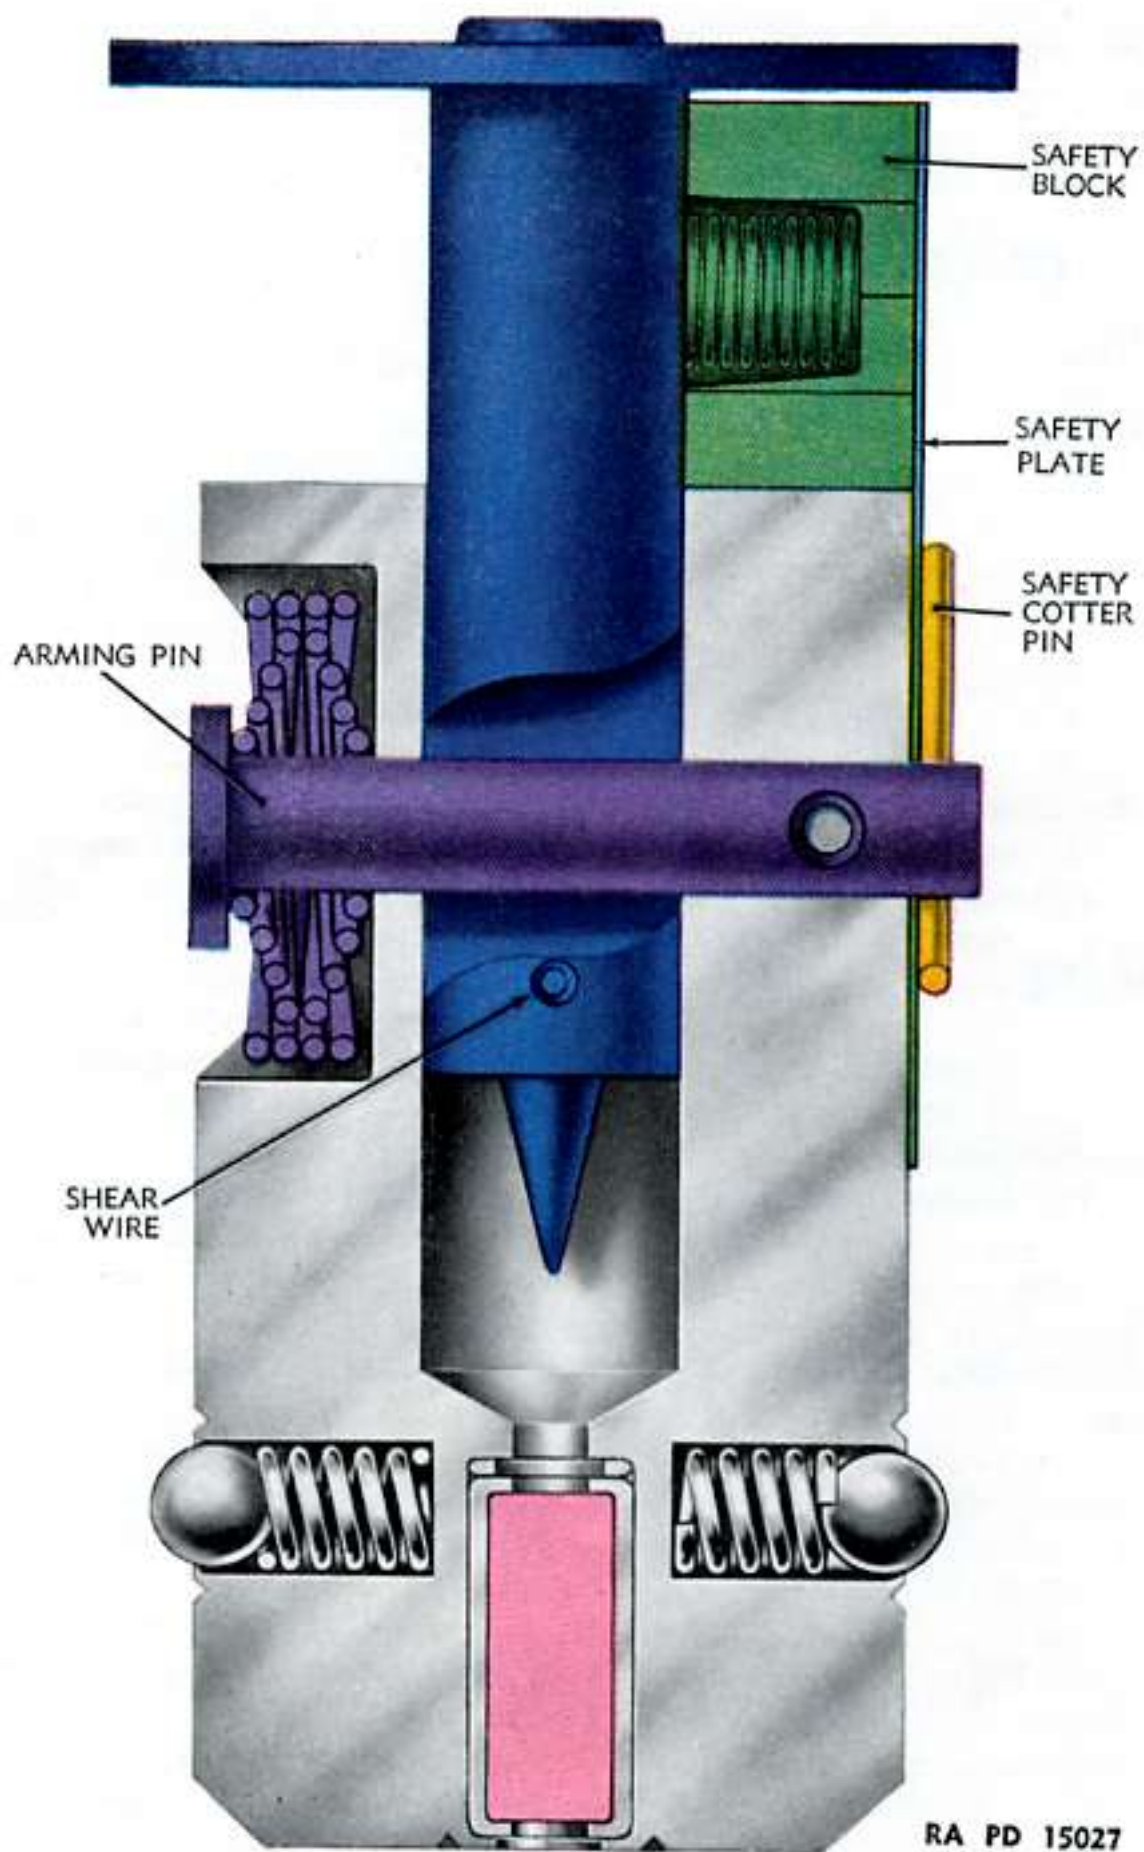
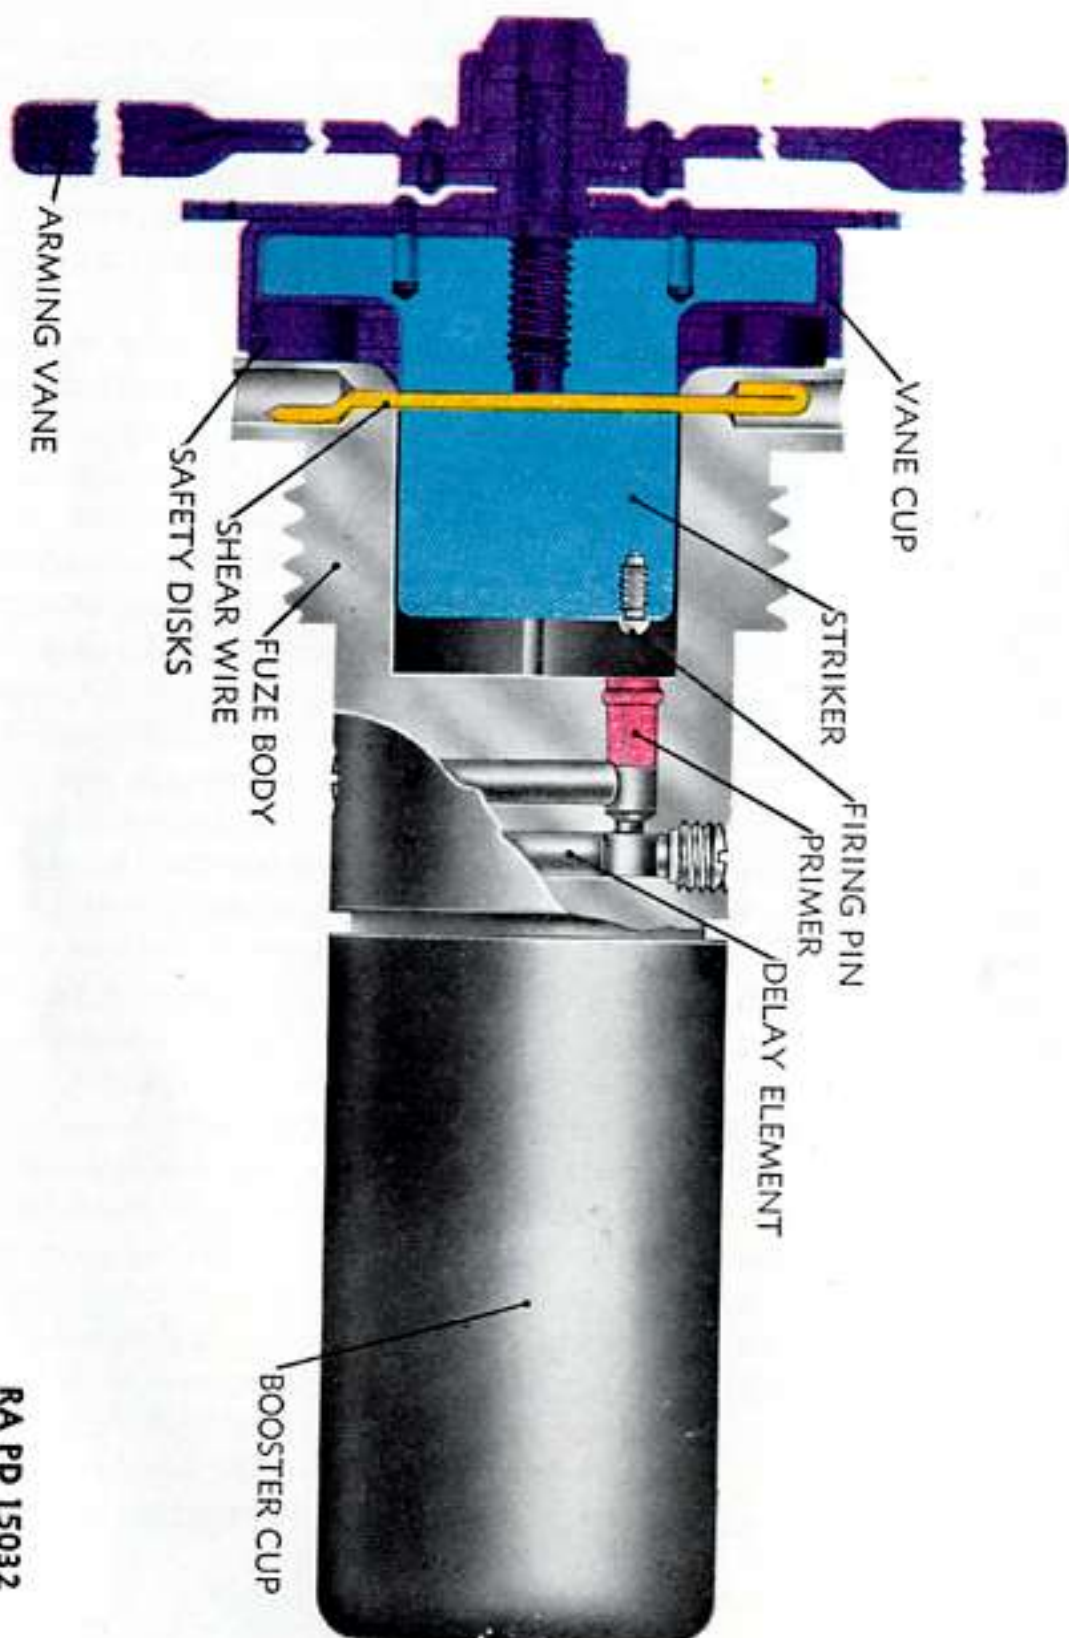

Figure 40, Nose fuze pin type.
Figure 41. Nose fuze, vane type.
(3) Hydrostatic fuzes act under the influence of water pressure to explode the bomb a predetermined depth below the surface.
32. COMPONENTS. **a. Nose fuzes.** The essential parts of a nose fuze are a striker head, a firing pin, safety block, arming mechanism, primer, detonator, and usually delay element and booster, all assembled in a fuze body. In the arming pin type (fig. 40) a spring-loaded arming pin, which passes through the fuze body and firing pin, is held in place by the arming wire. The wire also restrains a plate which holds the safety blocks in place. In the arming vane type (fig. 41) the striker is restrained by a safety block or a ring of safety disks which are released by the action of the arming vane. The arming vane is kept from rotating prematurely by the arming wire. In both types the striker is held in place after arming by a shear wire.